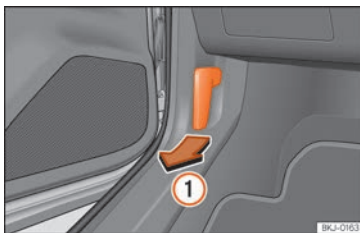

Fig. 179 Release lever in the driver's footwell area.
- Open the door and pull the lever that is underneath the instrument panel >>> **Fig. 179 ①**.